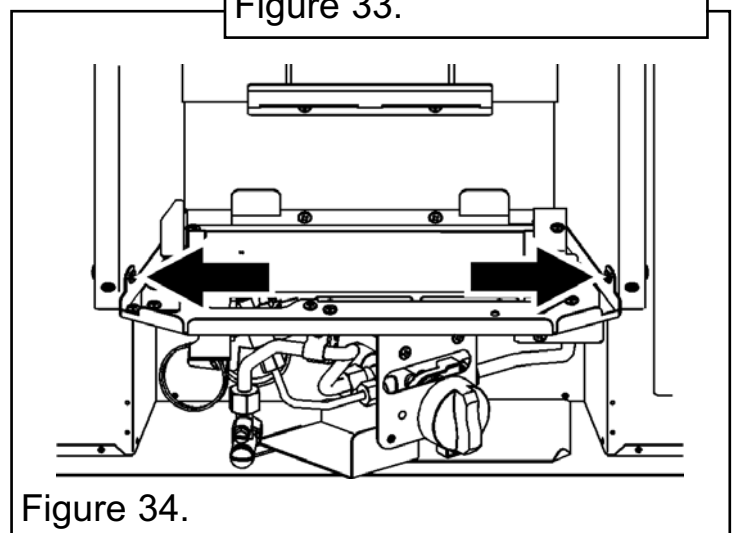

Figure 34.
5. Detach the burner unit from the convection box by removing two screws (See figure 34). Lift the burner unit clear.